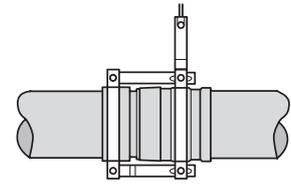

Fig. 15c TML collar and bars in position
Step 4 – Couple the brackets together with the two slotted restraining bars (which restrict horizontal movement to 25mm). Assemble these so that the slotted ends are above and below the expansion socket (Fig. 15c)